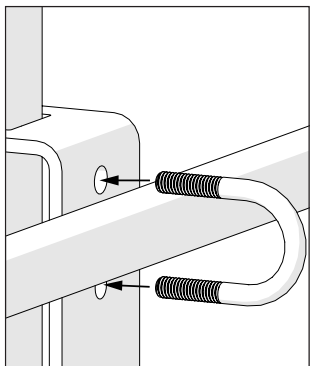
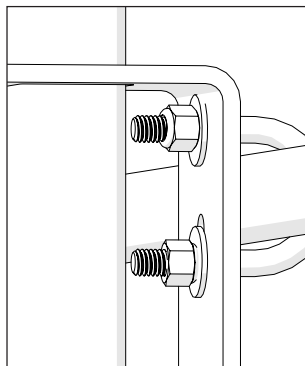

Figure 1
Figure 2
4. Mount the ladder post to the top two ladder rungs with U bolts (Figure 1), washers and locknuts. (Figure 2)